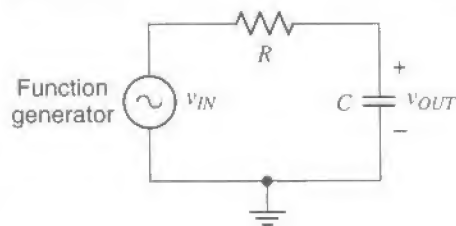
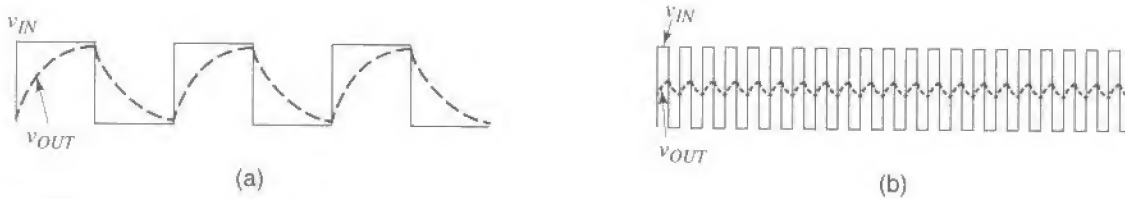
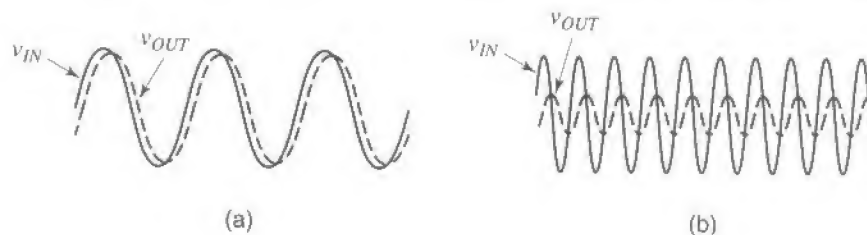
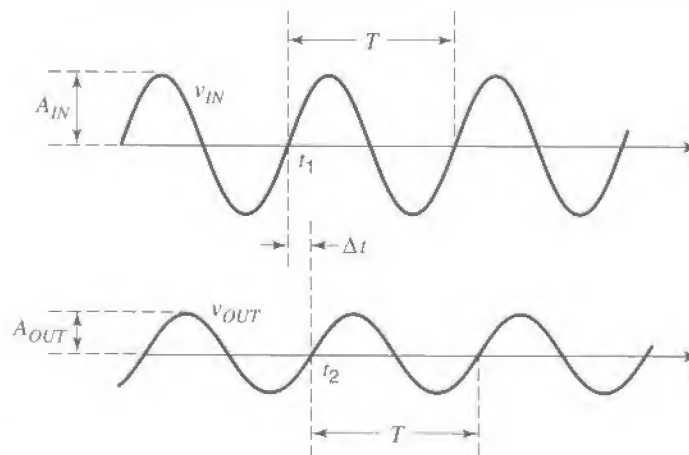

Fig. 1
Fig. 2
Fig. 3
Fig. 4
13. To verify your prediction in the previous step, you need to display the waveform for v_R . *However, you cannot* connect a probe's input across the resistor. If you did so, where would the ground clip of the probe be attached? If it were attached to the resistor terminal on the right, it would place a ground at that point, and then the capacitor would be shorted out since its bottom terminal is also at ground (see also Fig. 2 of Experiment 3 and the associated discussion). If, instead, the probe's ground clip were attached to the resistor terminal on the left, it would short out the function generator, which would be even worse, as damage could be caused to the generator. Voltages like v_R , defined across two terminals, neither of which is grounded, are sometimes referred to as floating voltages.
Consider the circuit of Fig. 1. In Experiment 6, you saw that if a square wave with a large period is applied to its input, the capacitor has the time to charge or discharge almost fully during each half interval, as shown in Fig. 2(a). The output then follows the input rather closely. If, however, the period of the input is made small, the output capacitor does not have time to charge or discharge fully, and the situation illustrated in Fig. 2(b) is observed. Now the output cannot follow the large excursions of the input, and its excursions become small.
These observations do not hold only for square wave inputs. Other shapes, such as triangle or sinusoidal, show qualitatively the same behavior. This is illustrated for a sinusoidal input in Fig. 3. As seen, low input frequencies allow the output to virtually follow the input, as seen in Fig. 3(a). We say that the low-frequency input signal “passes” to the output. On the other hand, when the input frequency is high, the output cannot follow the input, as shown in Fig. 3(b), and the output amplitude becomes small. The input signal, to a significant degree, is rejected, or “does not pass,” to the output. For these reasons, the circuit is said to be a *low-pass filter*. Many different circuits are low-pass filters, but we will concentrate on the simple one in Fig. 1 and study it in detail.
Because at very low frequencies the capacitor voltage is almost equal to the input voltage, as shown in Fig. 3(a), we say that “at very low frequencies, the capacitor in Fig. 1 acts almost as an open circuit.” Indeed, if the capacitor in Fig. 1 were replaced by an open circuit, the resistor current would be zero, and thus the voltage across the resistor would also be zero; the output voltage would then be equal to the input voltage. At high frequencies, on the other hand, the capacitor voltage is small, as shown in Fig. 3(b), and if the frequency is made very high the capacitor voltage is almost zero; because of this, we say that “at very high frequencies, the capacitor in Fig. 1 acts almost as a short circuit.” Indeed, if the capacitor in Fig. 1 were replaced by a short circuit, the output voltage would be zero.
Consider a linear circuit and assume that, at a given frequency, the input and output signals are as shown in Fig. 4. The amplitude of the input is A_{IN} , and that of the output is A_{OUT} . To indicate to what extent the input signal has passed to the output, we define the voltage gain magnitude, G :
The value of G depends on the circuit and the input frequency. For an amplifier, it can be much larger than 1. For the circuit of Fig. 1, it cannot exceed 1.
In Fig. 1, because the RC circuit shows some “inertia” (it takes time for the capacitor to charge or discharge before the output can rise or fall significantly), the various features of the sinusoidal output waveform (peaks, valleys, and zero crossings) appear to occur somewhat later than the corresponding features of the input waveform. We say that the output signal is *phase-shifted* with respect to the input signal. The phase difference between the output and the input can be determined with the help of Fig. 4. With the period T corresponding to 360 degrees, the phase difference between the two waveforms will be $[(\Delta t)/T] \times 360$ degrees, where $\Delta t = t_2 - t_1$, as shown in the figure. This is the phase by which the top waveform leads (is ahead of) the bottom one or, identically, the phase by which the bottom waveform lags (is behind) the top one. It is common to quote instead the phase by which the bottom waveform *leads* the top one; this is the *negative* of the above quantity and will be denoted by ϕ . Thus,
The values of G and ϕ depend on how fast the signal is varying in relation to the circuit's "speed." Consider, for example, the circuit of Fig. 1. We have seen in Experiment 6 that a measure of the circuit's "slowness" is its time constant, $\tau = RC$. Thus, a measure of the circuit's speed is the inverse, $1/\tau = 1/(RC)$. It is common to consider how the circuit behaves when the input's angular frequency ω (in rad/s) is equal to this measure. Since $\omega = 2\pi f$, where f is the frequency in Hz, we are interested in the behavior of the circuit at a critical frequency f_c for which $2\pi f_c = 1/(RC)$; thus f_c is given by
1. Connect the circuit of Fig. 1, using $R = 16 \text{ k}\Omega$ and $C = 10 \text{ nF}$. Set the input frequency at 1 kHz and its amplitude (peak value) at 2V. Monitor the input waveform on the scope's channel 1 and the output waveform on channel 2, with both channel inputs set at AC. Use $\times 1$ probes. The sensitivity of the two channels (V/div) should be the same, and the variable sensitivity control for each should be in the calibrated position. The trigger source selector should be at channel 1, the trigger coupling at AC, and the trigger slope at positive. You should be able to obtain a display like that in Fig. 4. Carefully establish the 0 level for each waveform by using the ground setting for each scope input, and align this level with a main graticule horizontal line, using the vertical position control.
6. The phase shift between the output and the input, ϕ , was defined under Background above. Measure this quantity, with the input frequency equal to the cutoff frequency f_c that you determined in step 3. To make this measurement easier, move one of the two waveforms vertically, so that its 0 level coincides with the 0 level of the other waveform (use the ground input mode on the scope to establish the 0 levels accurately). Then Δt can be easily estimated as the horizontal displacement between two zero crossings, as shown in Fig. 4.³ Is the phase shift at f_c approximately equal to the theoretically predicted value of -45 degrees?